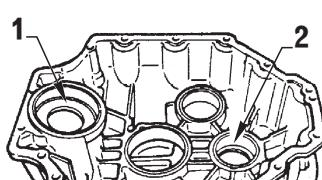
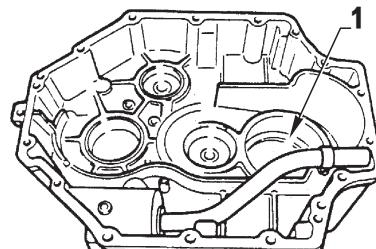

FIG. 6-3a
FIG. 6-3b
Using a seal mandrel inside the housing tap the input shaft seal out. Discard seal and replace with a new seal. (item 2, Fig. 6-3a).
For transmission types ZF63 IV, $i=2.0$ and $i=2.5$ (item 2, Fig. 6-3a) the radial shaft seal ring has already been removed before dismounting the housing half.
Using a mandrel punch top the output seals out from the housing. Discard seals and replace with a new seal (Fig. 6-3b and Fig. 6-3a item 1).